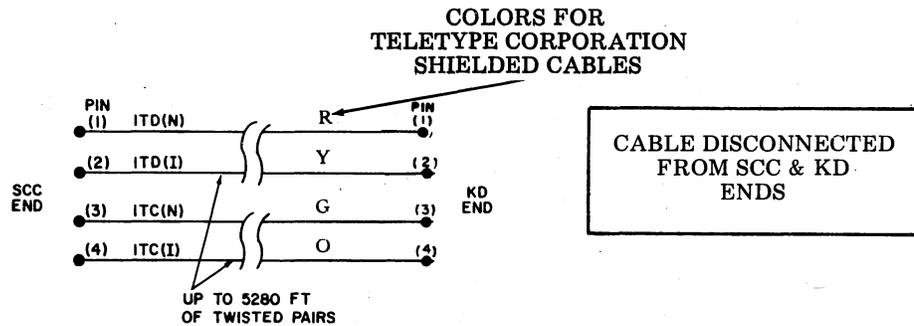

Fig. 15—DC Tests on Cable Pairs Between SCC and KD
3.20 The Loop Resistance tests require a Simpson 260 VOM and a jumper. See Fig. 15 or 16 (as applies) for test arrangement.
3.21 The foreign voltage tests require a Simpson 260 VOM or equivalent. See Fig. 15 or 16 (as applies). Perform the tests in Table B.
3.22 The Insulation Resistance Tests require a Simpson 260 VOM or equivalent. See Fig. 15 or 16 (as applies) for test arrangement. Perform the tests in Table C.